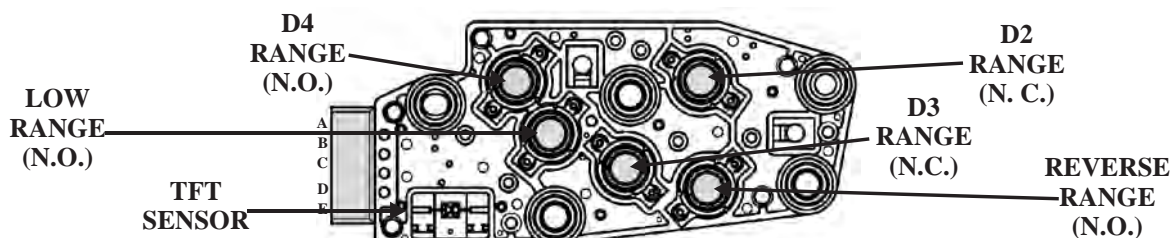
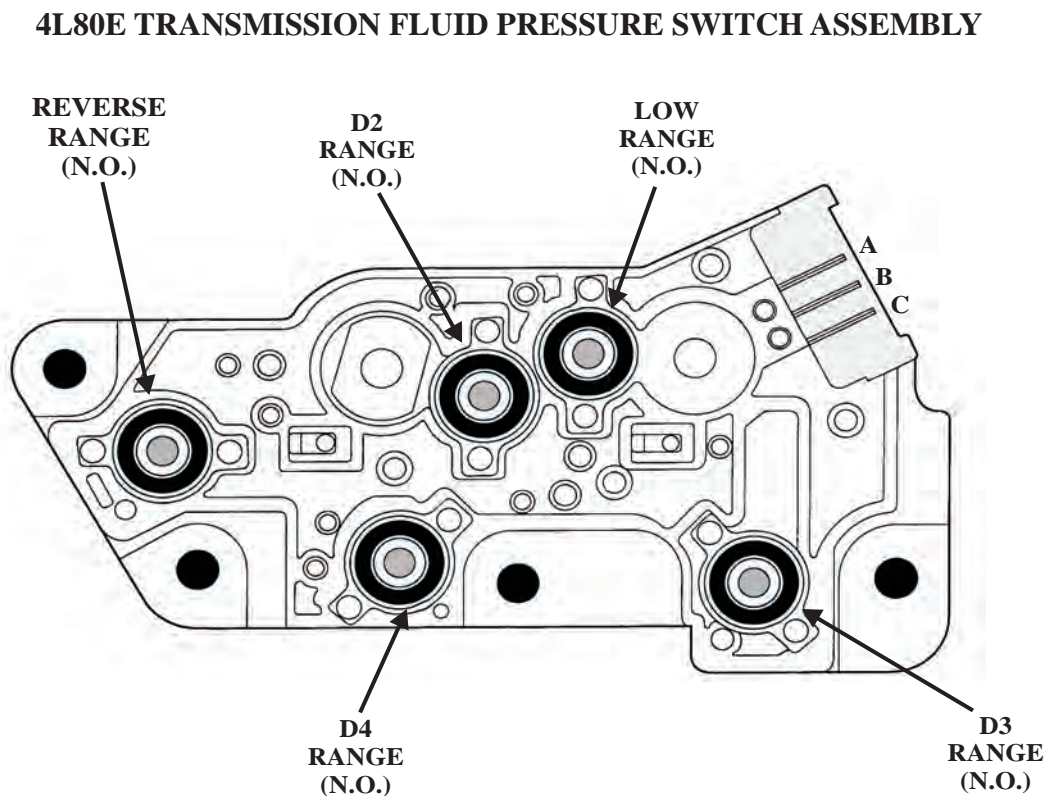

Figure 77
Figure 78
- The TFP Switch assembly in a 4L60E transmission (See Figure 77) ranges differently than the TFP Switch assembly in a 4L80E, (Refer to Figure 78). The 4L80E TFP Switch assembly contains 5 normally open pressure switches. The 4L60E TFP Switch assembly contains 3 normally open and 2 normally closed pressure switches and also contains the Transmission Fluid Temperature Sensor.